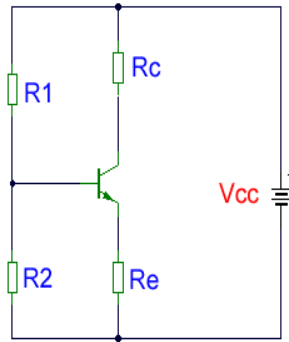

Fig.1
2. Select a suitable transistor to be used in the circuit shown in fig. 1.